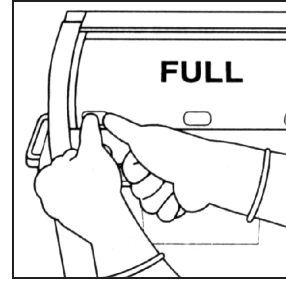

Figure 2
- Start with the center lock. Using your thumb, push the lock pad down into the slot. Using your other thumb, push down on the lid above the lock pad until it “clicks” in place. Repeat for the other two locks (Figure 2).
- If lid is open, close lid and snap all three lid locks (Figure 2).